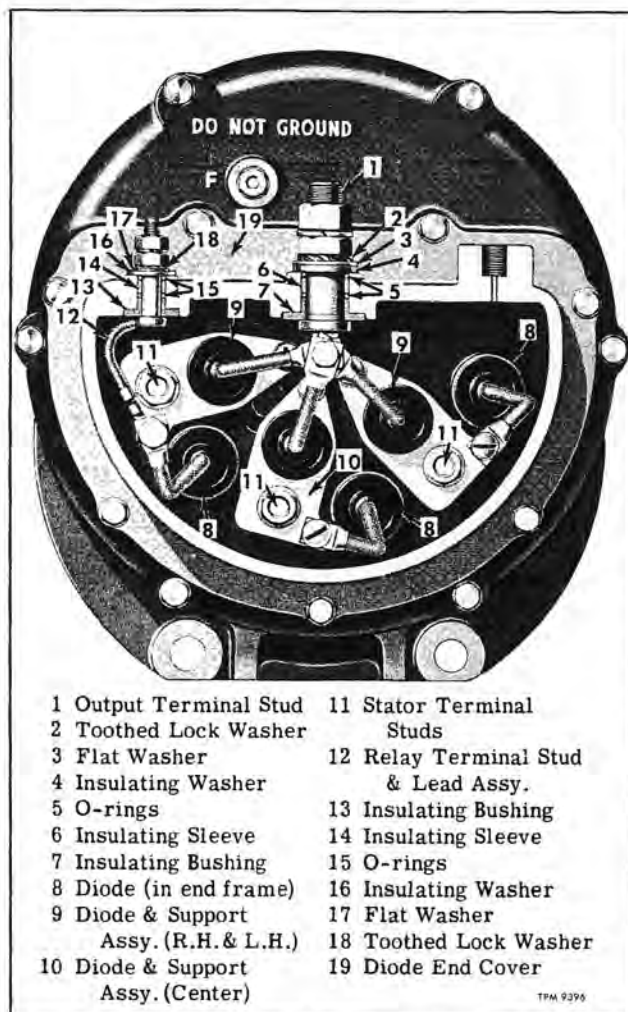

Figure 6—Cutaway View Through Diode End Cover
1. Remove all nuts, lock washers, flat washers, and insulating washers from the output and relay terminal studs (fig. 6). Tap studs lightly to loosen, then push studs down into diode end cover.
ports attached to stator lead studs (fig. 6) are serviced only as diode and support assemblies. The two outer diode and support assemblies are identical and can be installed at either side; the center unit has a different support, with 2 inches between mounting hole centers (outer supports have 2-1/4 inch hole centers).